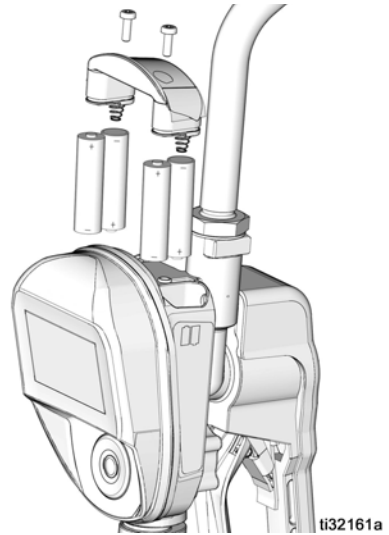

FIG. 35
- Be sure to follow the correct polarity as shown on the installation labels located on either side of the metered dispense valve when installing batteries in the battery compartment (FIG. 35).
4. Install 4 new batteries. See labels on the each side of the housing and FIG. 35 for battery orientation.